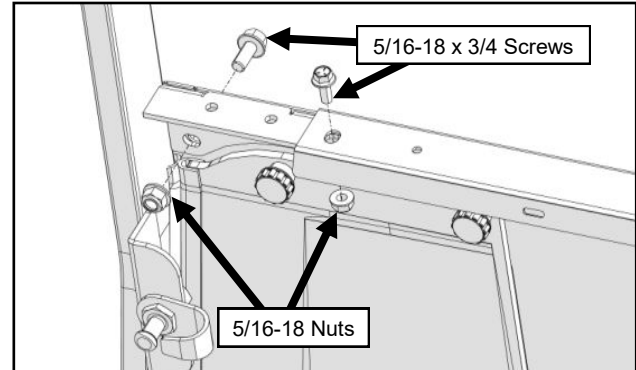

Fig. 7.3 (Side Frame to Cowl Fasteners)
7.3 Fasten the side frame to the cowl as shown in Figure 7.3.